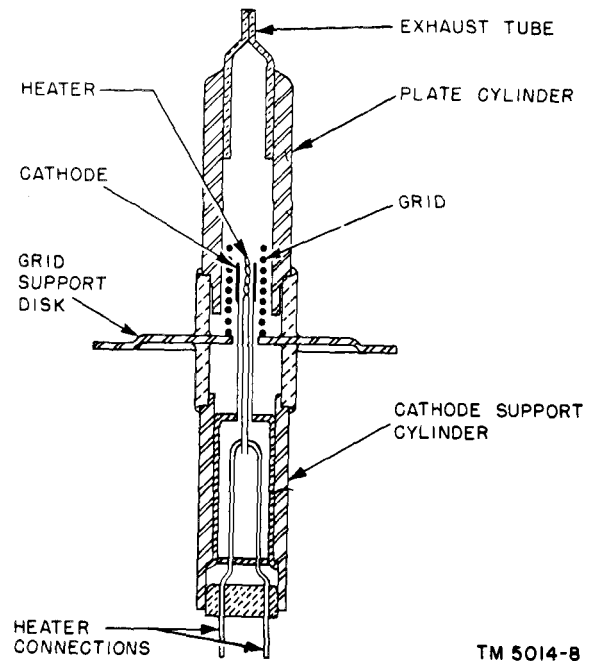

Figure 6. Test Set TS-538(\*)/U, rf oscillator V4, cross-sectional view.
(fig. 6, 7, and 8)
*a. Oscillator Tube Construction.* The rf oscillator tube is a pencil-type, medium mu triode with coaxial cylindrical elements. The construction of the tube is shown in figure 6. The tube has a metal cylinder at each end, joined together by